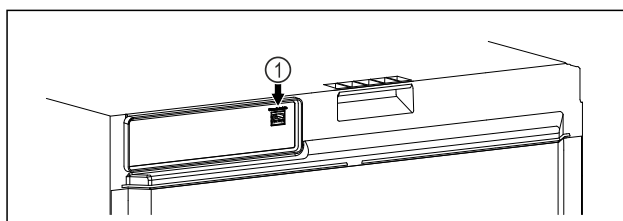

Fig. 112
- SmartModule Fig. 112 (1) has been inserted.